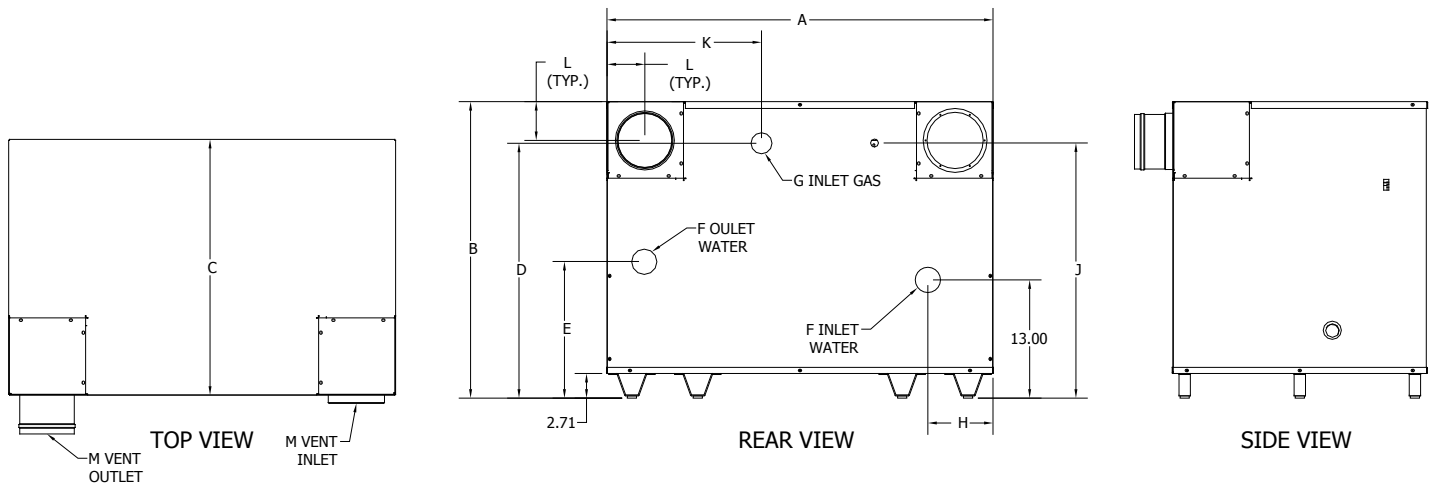

Figure 1: Dimensions
- C. Provide clearance between water heater jacket and combustible material in accordance with local fire ordinance. Refer to Figure 1 for minimum listed clearance from combustible material. Recommended service clearance is 24 inches from left side, right side and front. Recommended service clearance is 36" at rear of unit. Service clearances may be reduced to minimum clearances to combustible materials.